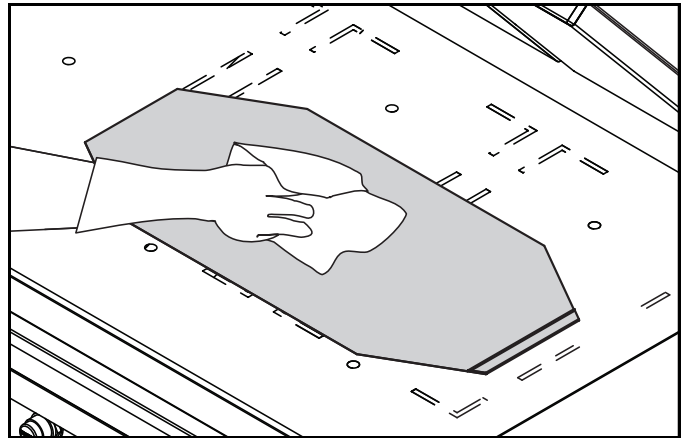

Figure 6-15
14. Clean release sheets using a damp white towel. To remove heavy carbon build-up, spray 4-5 sprays of Degreaser Solution on the release sheet. Scrub thoroughly with a damp white towel. Wipe the release sheet dry. Turn the sheet over and repeat the cleaning process. Lay flat and allow to air dry overnight. See Figure 6-15 and 6-16.